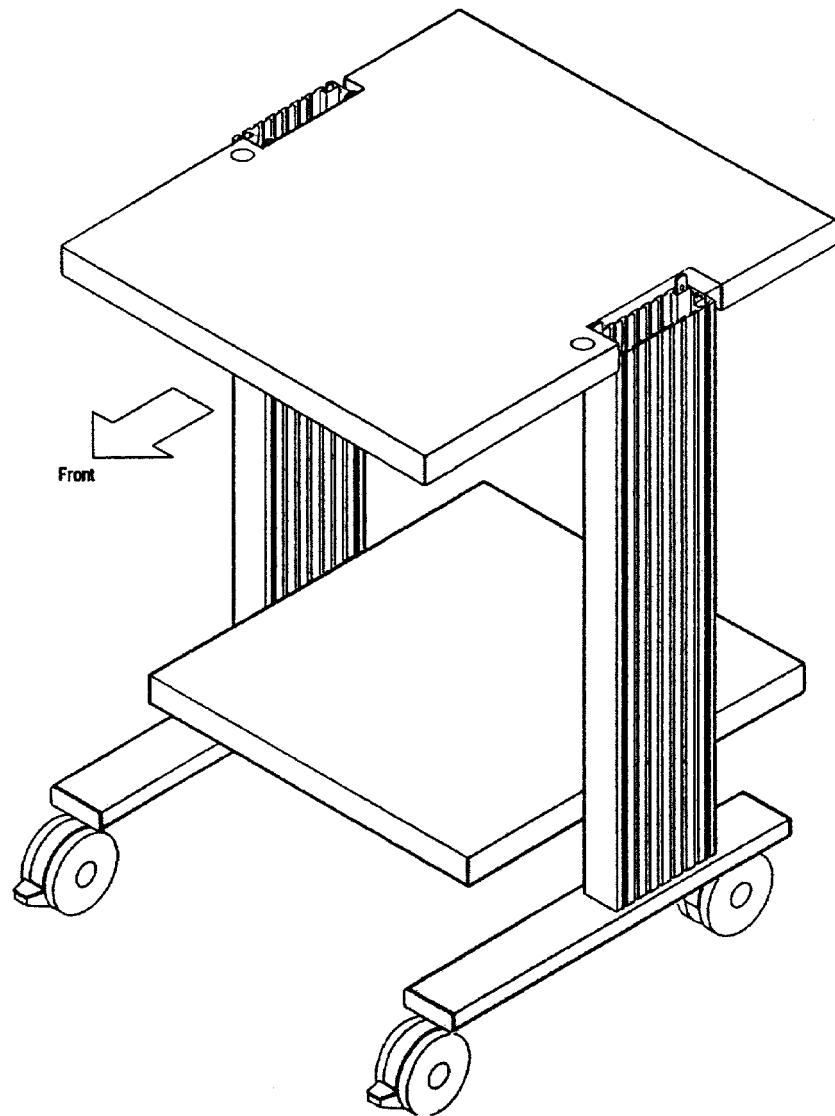

Figure 9: Aligning the Keyboard Shelf
2. Position the keyboard shelf horizontally between the leg assemblies, as shown in Figure 9. Position the shelf so that the long end of the shelf is positioned to the front of the cart.